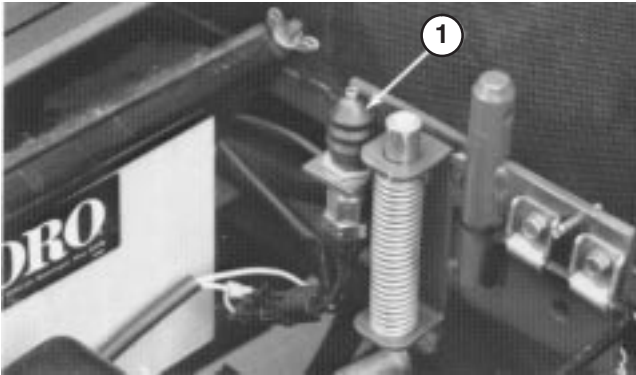

Figure 37
3. Remove boot from button end of seat switch (Fig. 37). Retain boot for reinstallation. Separate switch wire connectors.